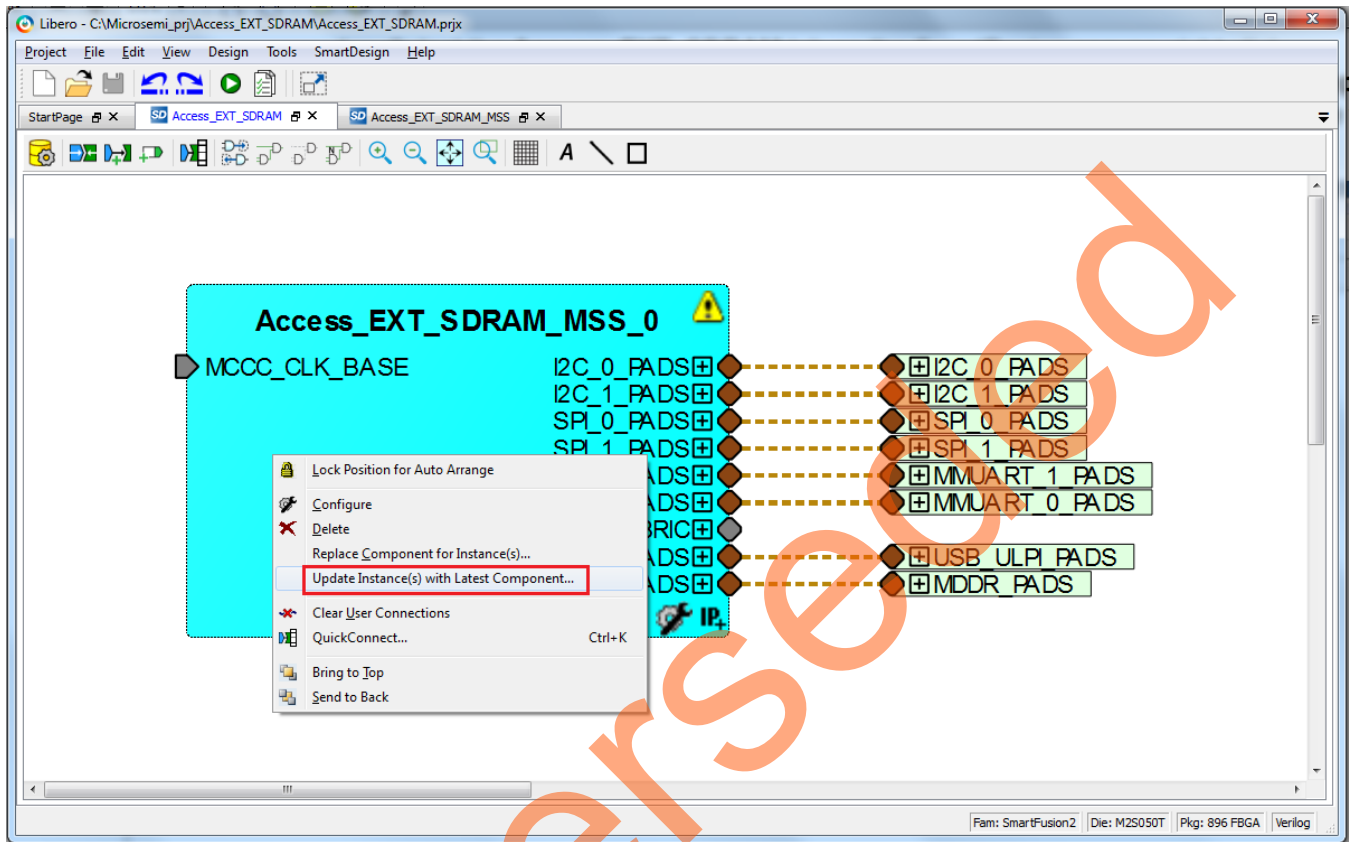

Figure 14. Updating the MSS
1. Select the **Access\_EXT\_SDRAM** tab on the SmartDesign canvas, right-click **Access\_EXT\_SDRAM\_MSS\_0** and select **Update Instance(s) with Latest Component**, as shown in Figure 14.